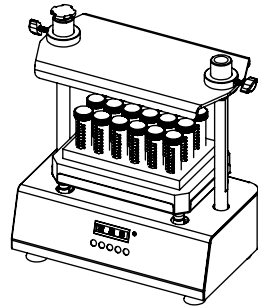

Fig. 22.2
- Place the top cover on the guide rode and push down as shown in fig 22.2.